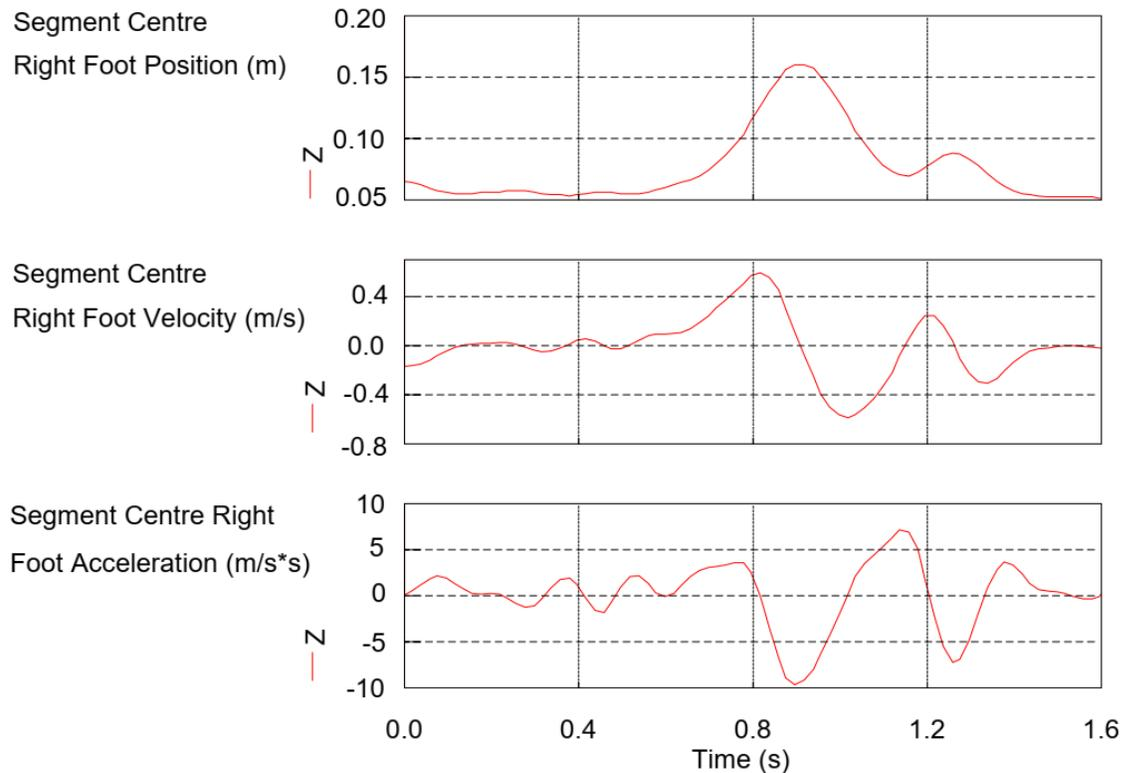

Figure 3.12 The displacement, velocity and acceleration of the right foots center of gravity in the Z direction as a function of time
Choosing the centre of gravity (CG) of one segment (the right foot) and one direction (Z) yields the curves seen in Figure 3.12. This figure shows how Equations 3.20 and 3.21 function. Study the **position curve at the top** of Figure 3.12 first.